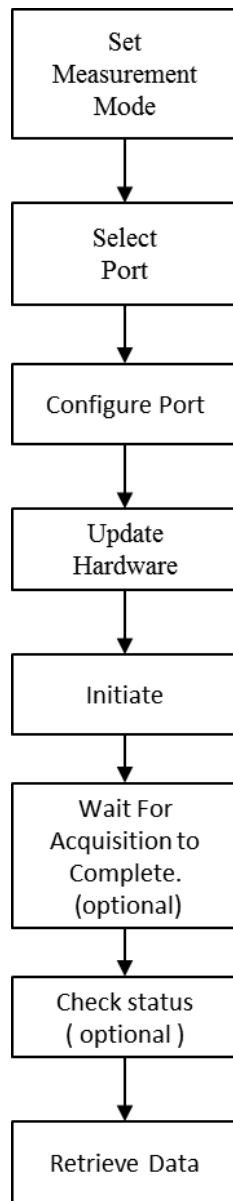

Figure 1-5 Steps required to capture data with the M9216A
- Figure 1-5 Steps required to capture data with the M9216A 11
This section describes in general the steps and actions required to capture data with the M9216A. Figure 1-5 shows the flow chart of the required procedure to capture data from the DAQ after connection has been established with the M9216A.
As mentioned previously, the input ports can be switched to the auxiliary output ports. Figure 1-5 shows the structure of the input multiplexer for a pair of digitizer channels on the same bank.